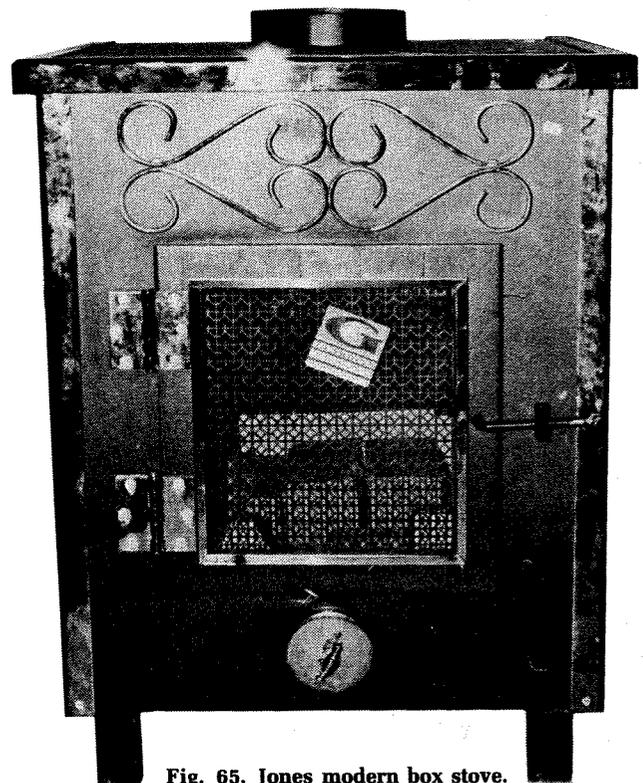

Fig. 65. Jones modern box stove.
6. **Jones Wood Stoves** (manufacturer), 4550 W. State, Boise, ID 83702. Jones stoves (Fig. 65 and Table 7) come with fireplace adapter, tempered-glass door, and screen for fireplace effect. Options include a built-in oven, water reservoir, and nickel trim.